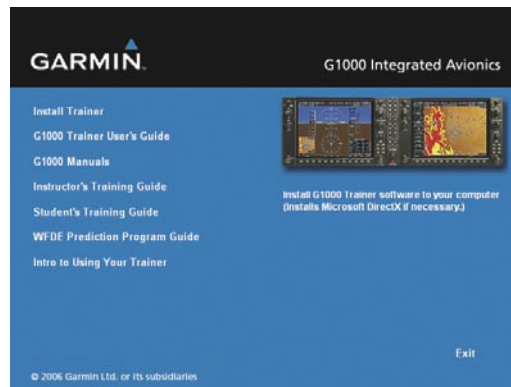

Figure 1 G1000 Installer Screen
- 1) Insert the G1000 Trainer DVD-ROM into the DVD-ROM drive of the computer (PC) on which the G1000 Trainer software application is to be installed. The screen shown in Figure 1 will automatically appear on your computer.